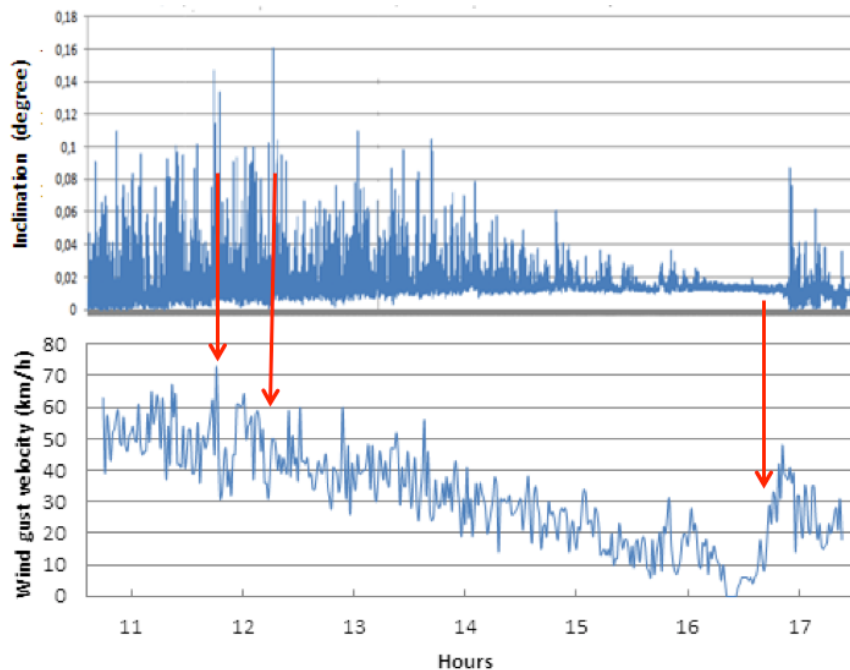

Figure 2: Two-dimensional time series plot of inclination and wind velocity.
2. As a result, there is no direct relationship between the wind load (wind velocity) and the immediate response of the tree, i.e. no correlation between the load and the inclination of the trunk (see Figure 2).